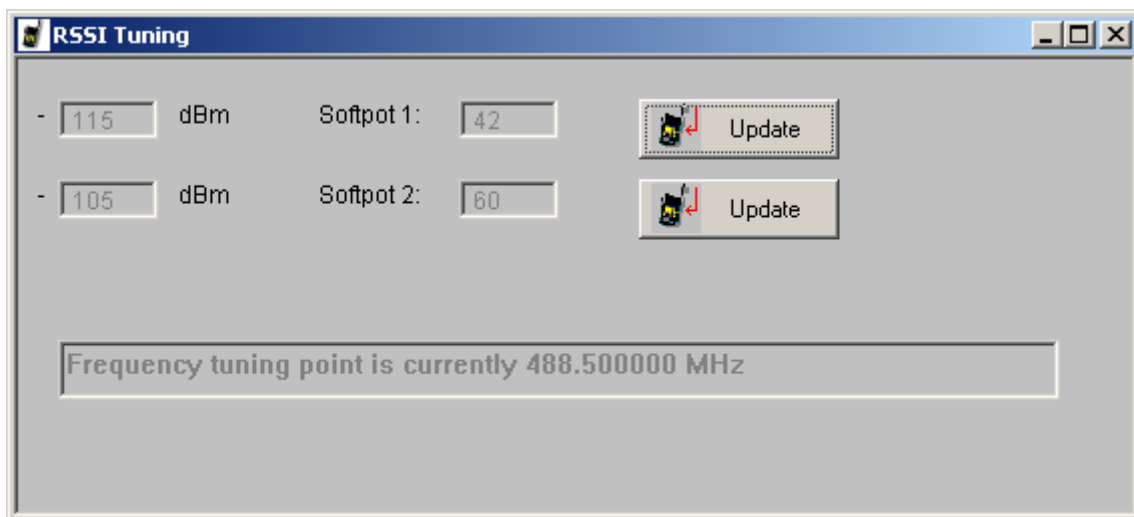

Figure 4-1. RSSI Tuning
1. Under the **Rx Align** menu, select **RSSI Tuning** (Figure 4-1).